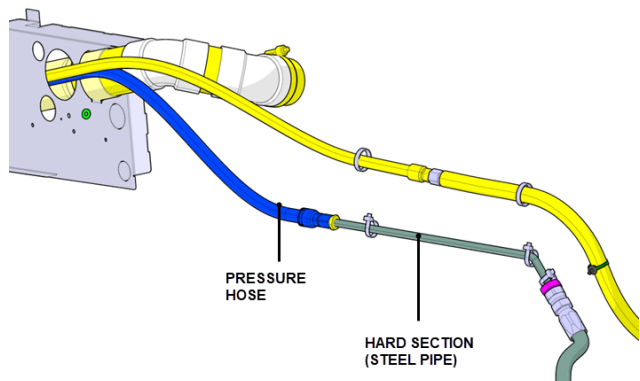

FIGURE 29
- In the rear wheel well, it is located on the curbside. It is connected to a hard section (steel pipe) from the steering pump (fig. 29). Search above the transmission.